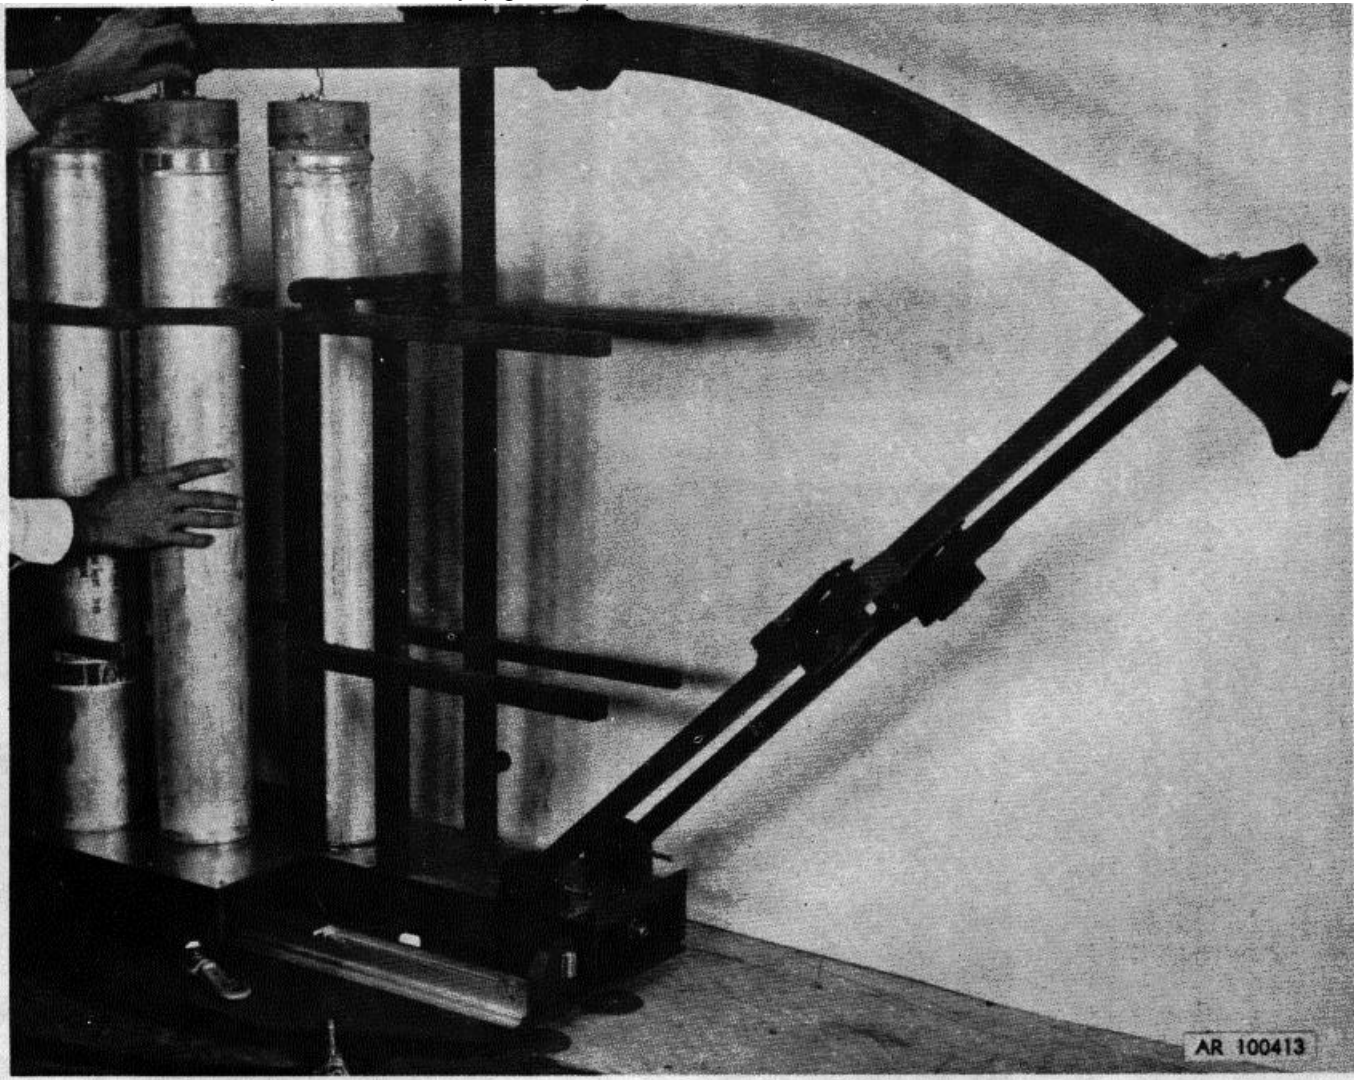

Figure 2-14. Disengaging pull cable assembly from dispenser assembly.
(1) Disengage pull cable assembly disk from overhead track of dispenser assembly (fig. 2-14).